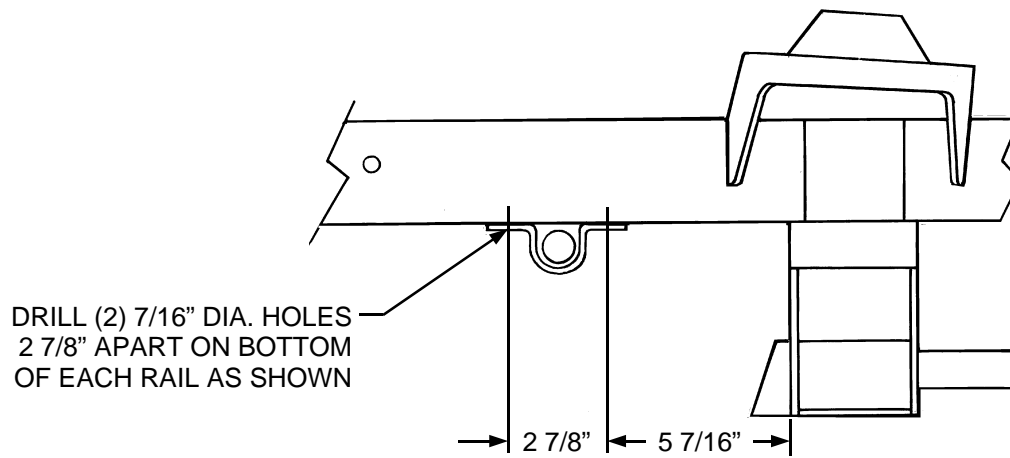

Figure 3
5. If you purchased a Sway Bar for your Nova Sub-Frame, install it next. Drill two 7/16" dia. holes in the underside of each rail as shown in Figure 3. Install the U-bolts from the sway bar into the frame through the 7/16" holes. Slip the bushings and mounting brackets onto the sway bar and attach the sway bar to the rails. Attach the links to the ends of the sway bar and to the lower control arms using the SB-012 Bracket Kit from *HEIDTS*.